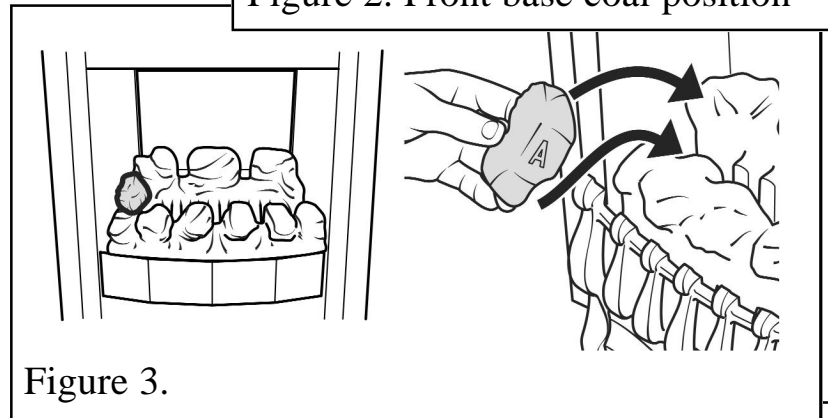

Figure 3.
3. Place a type “A” coal between the front and rear base coals with the letter “A” upright and so that the coal is against the left side of the firebox (See figure 3).